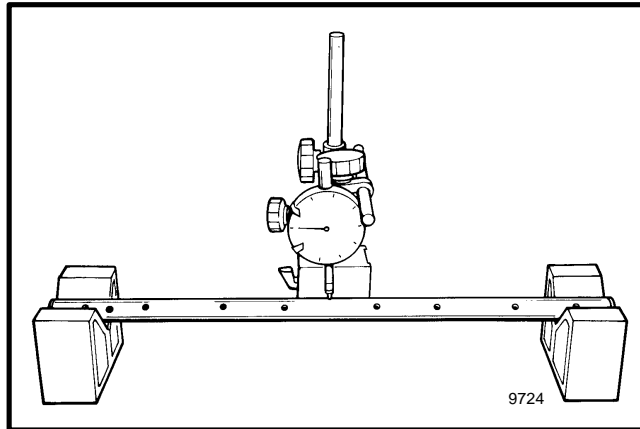

FIGURE 21. CHECK THE ROCKER ARM SHAFT
1. Check the rocker arm shaft as shown in FIGURE 21. Turn the shaft and make a note of the highest and the lowest reading on the dial indicator. If the difference between the readings is below 0.6 mm (.024 inch), use a press to straighten the shaft. Do not apply heat to the